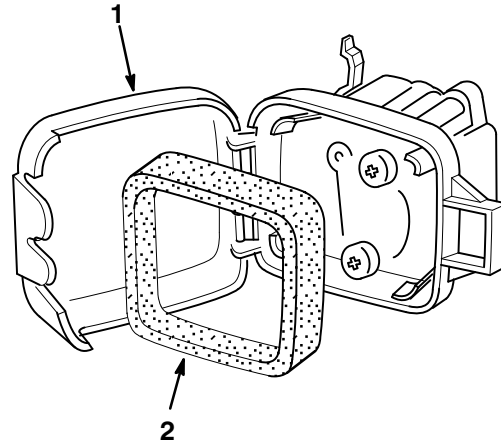

Figure 23
1. Unsnap the air filter cover (Fig. 23).
2. Remove the foam filter (Fig. 23).
5. Reassemble the filter and filter cover (Fig. 23).